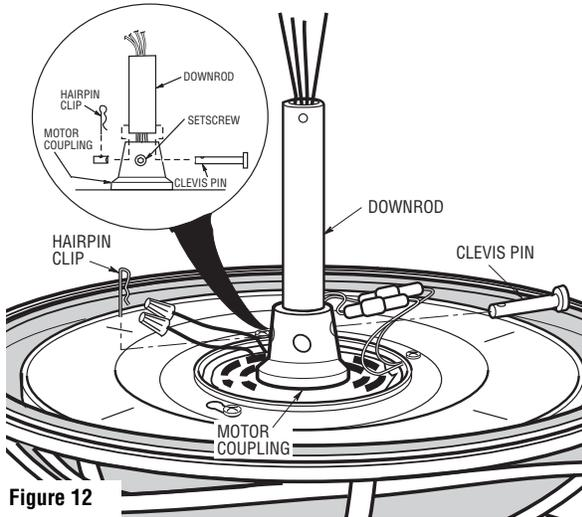

Figure 12
- 21. Fold the wires from the downrod into the slot in the motor coupling. Then slide the downrod down the wires and seat the downrod in the motor coupling (Figure 12).
- 22. Align the clevis pin holes in the downrod with the holes in the motor coupling. Install the clevis pin and secure with the hairpin clip (Figure 12). The clevis pin must go through the holes in the motor coupling and the holes in the downrod. Push the straight leg of the hairpin clip through the hole near the end of the clevis pin until the curved portion of the hairpin clip snaps around the clevis pin. The hairpin clip must be properly installed to prevent the clevis pin from working loose.